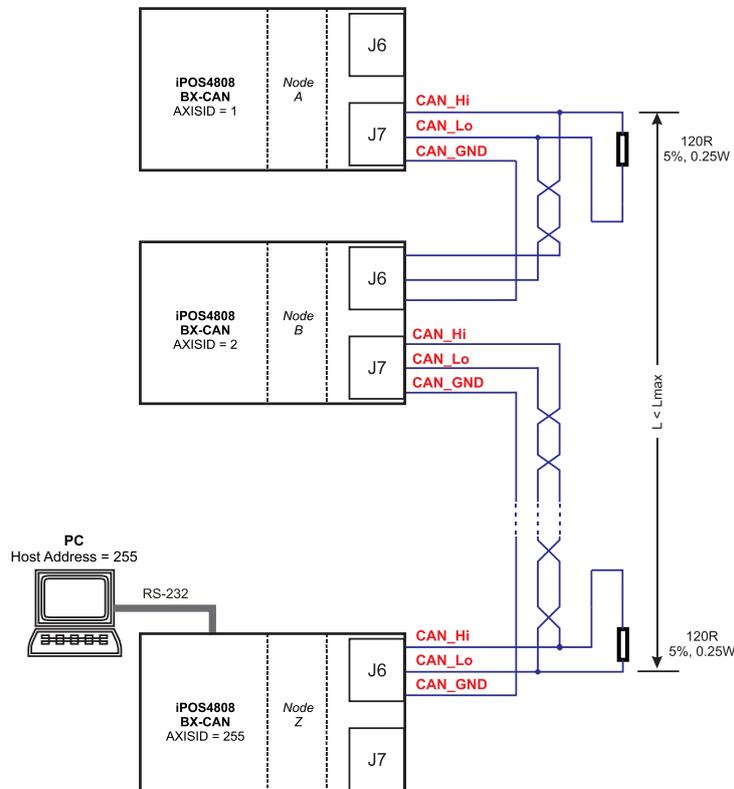

Figure 3.28. Multiple-Axis CAN network
1. The CAN network requires a 120-Ohm terminator. This is not included on the board. **Figure 3.28** shows how to connect it on your network